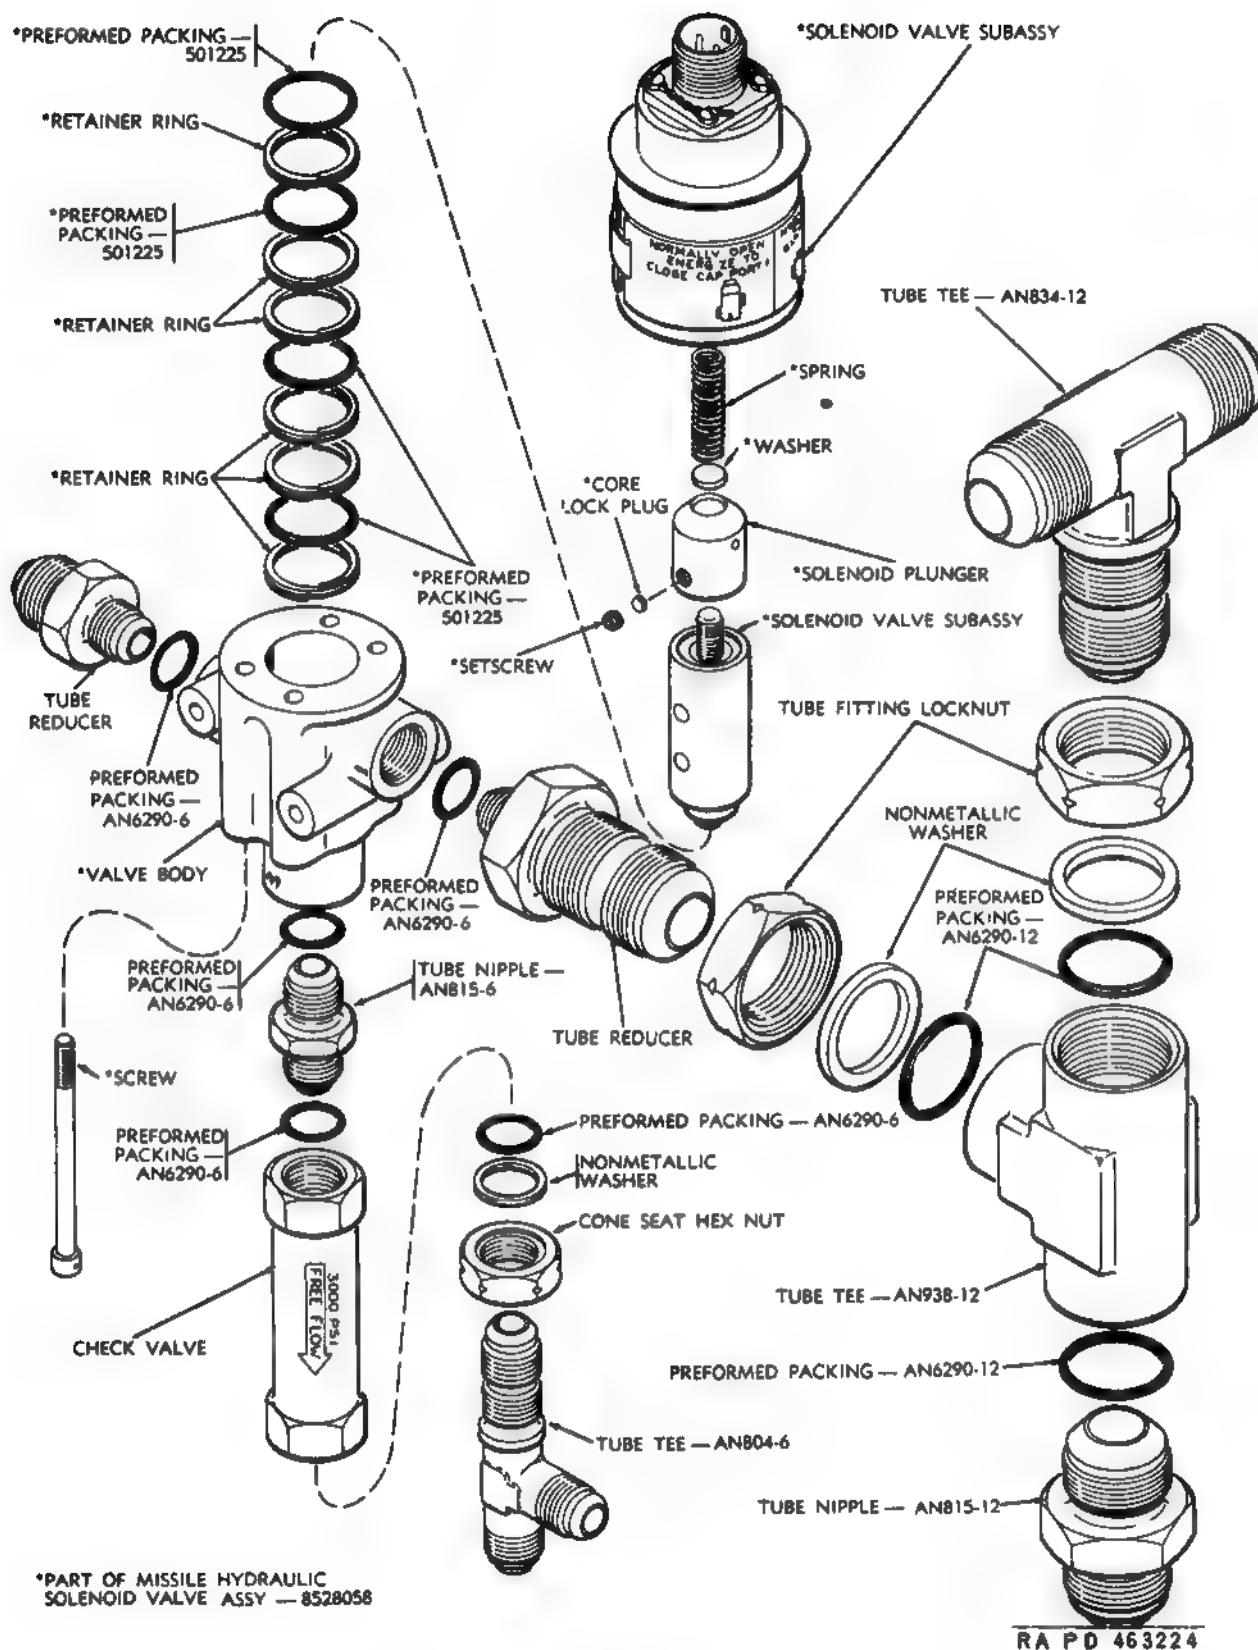

Figure 135. Missile hydraulic solenoid valve group—disassembly and assembly.
(2) *Disassembly.* Disassemble the valve group (fig. 135) and valve assembly.